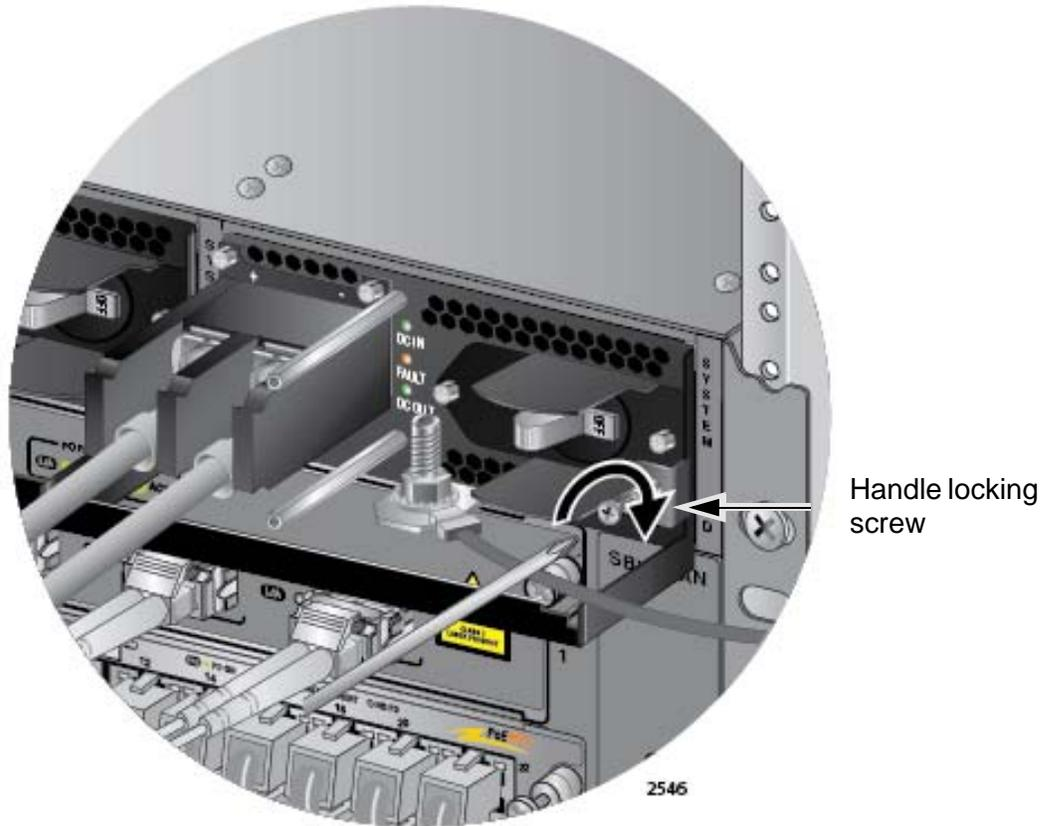

Figure 135. Tightening the Handle Locking Screw
8. With a #2 Phillips-head screwdriver, tighten the handle locking screw to secure the power supply to the chassis. See Figure 135 on page 195.